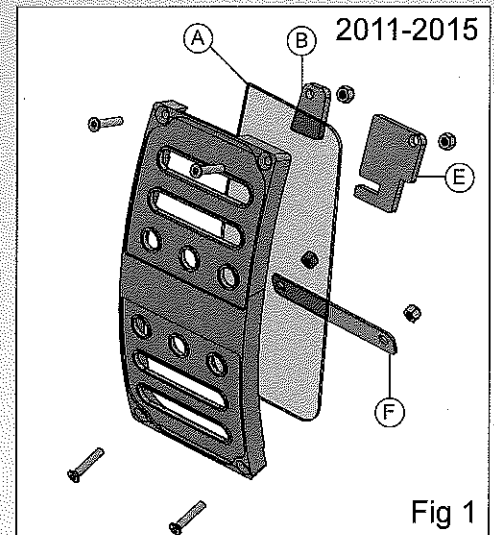

Fig 1
2. Install the supplied rubber gas pedal pad (A) into the back of the new Drake pedal cover
3. Using a 2mm Allen wrench and 5.5mm wrench loosely attach lower bracket (D) for 2005-2010 or (F) for 2011-2015 to the gas pedal cover. Do not tighten yet. See Fig 1 and Fig 2 for reference.
5. Using a 2mm Allen wrench and 5.5mm wrench install bracket (C) for 2005-2010 or (E) for 2011-2015 on to the back of the pedal cover. See Fig 1 and Fig 2 for reference.
7. Using a 10mm socket, reinstall the gas pedal assembly into the car with the (3) nuts removed in step 1. Torque them to 7 ft-lbs.